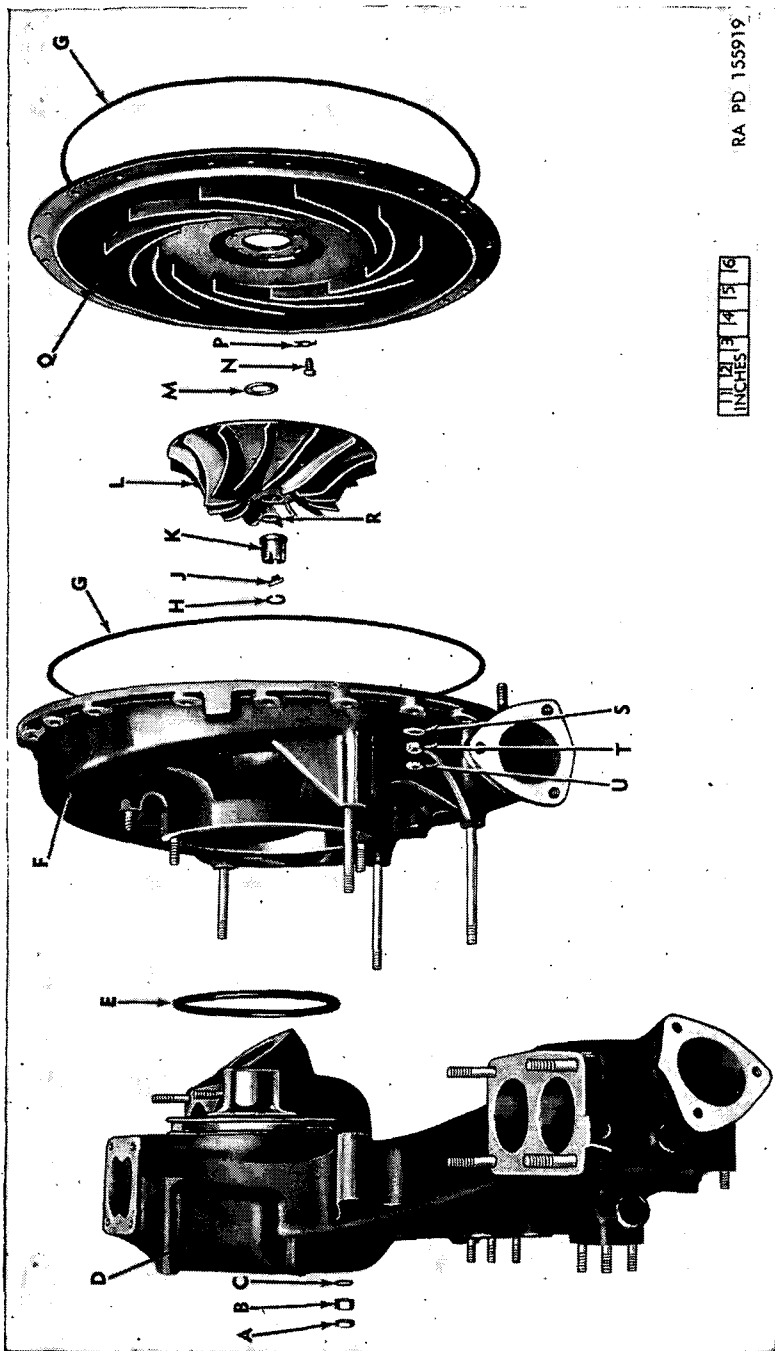
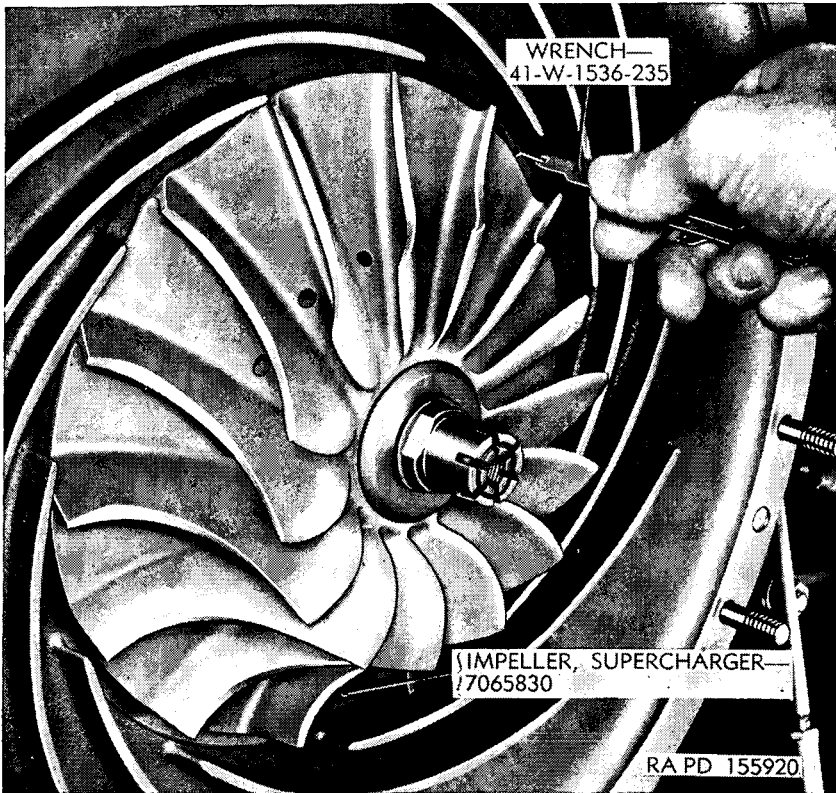
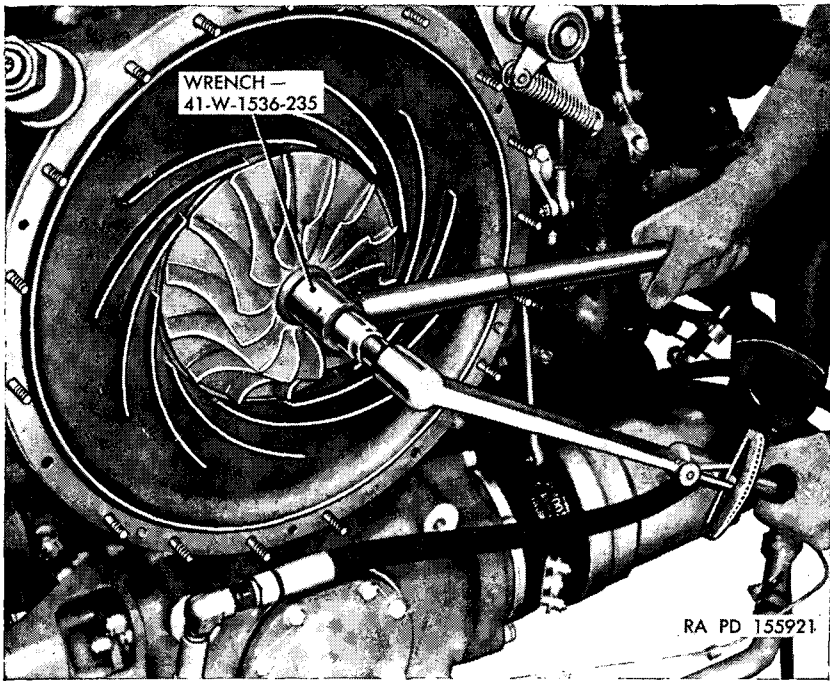

Figure 49. Supercharger and carburetor elbow—exploded view.
Figure 50. Checking clearance between supercharger impeller and diffuser.
Figure 51. Tightening impeller nut.
- (16) Install supercharger diffuser (Q) with a new "O" ring gasket (G, fig. 49). Secure both the diffuser and the impeller driven gear oil seal housing with six tab wash-
- ers (P) and hex-head bolts (N). Bend up the tabs of the washers.
- (17) Install the supercharger impeller spacer (A, fig. 38) and impeller shim (M, fig. 49). Then install the supercharger impeller on the shaft end of the impeller driven gear (HH, fig. 38), using wrench 41-W-1536-240 (fig. 32). Check clearance between the supercharger impeller and diffuser (fig. 50). A clearance of 0.030 to 0.035 inch must be obtained by the selection of shims.
- (18) Install plain washer (R) and slotted impeller locking nut (K, fig. 49) on the shaft end of the impeller driven gear (HH, fig. 38), using wrench 41-W-1536-235 (fig. 51). Tighten to 700 lb-in torque. If the lock slots in the nut do not line up with the lock slots in the impeller driven gear, it will be necessary to lap the seating surface of the nut until the slots do line up at 700 lb-in torque. The impeller nut lock (J, fig. 49) must not be forced into the lock slots in the driven gear. Install lock and the impeller nut locking ring (H, fig. 49). Turn the accessory case gear train by hand to make sure